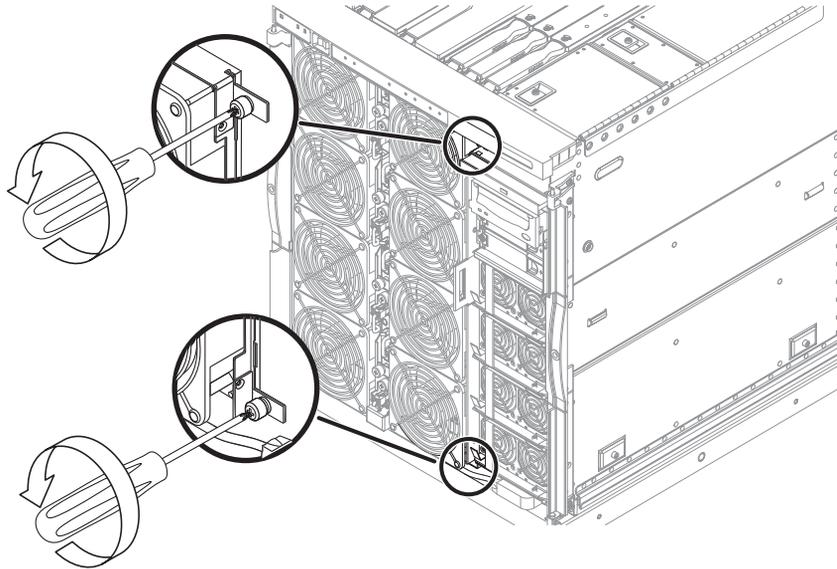

FIGURE 6-6 Loosening the Fan Tray Captive Screws
7. Loosen the two captive screws to the fan tray in the order below (FIGURE 6-6). There is one captive screw at the top and one at the bottom right side of the fan tray.
5. Tighten the two captive screws, one at the top and one at the bottom right side (FIGURE 6-6).